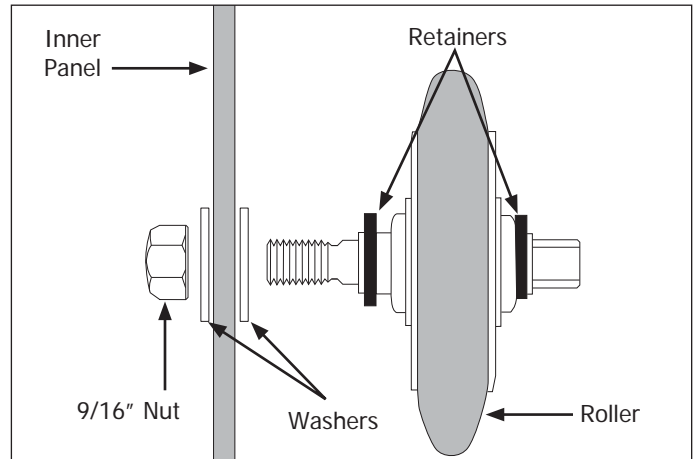

Figure 4-28.
2. Using a 9/16" socket or wrench, remove the nut from the roller shaft securing it to the inner panel. A 3/8" wrench can be used on the opposite end of the shaft to stop the shaft from turning while loosening and tightening the nut. (See Figure 4-28)
With the drum removed, all roller assemblies are accessible. Figure 4-28 illustrates the front roller assemblies.